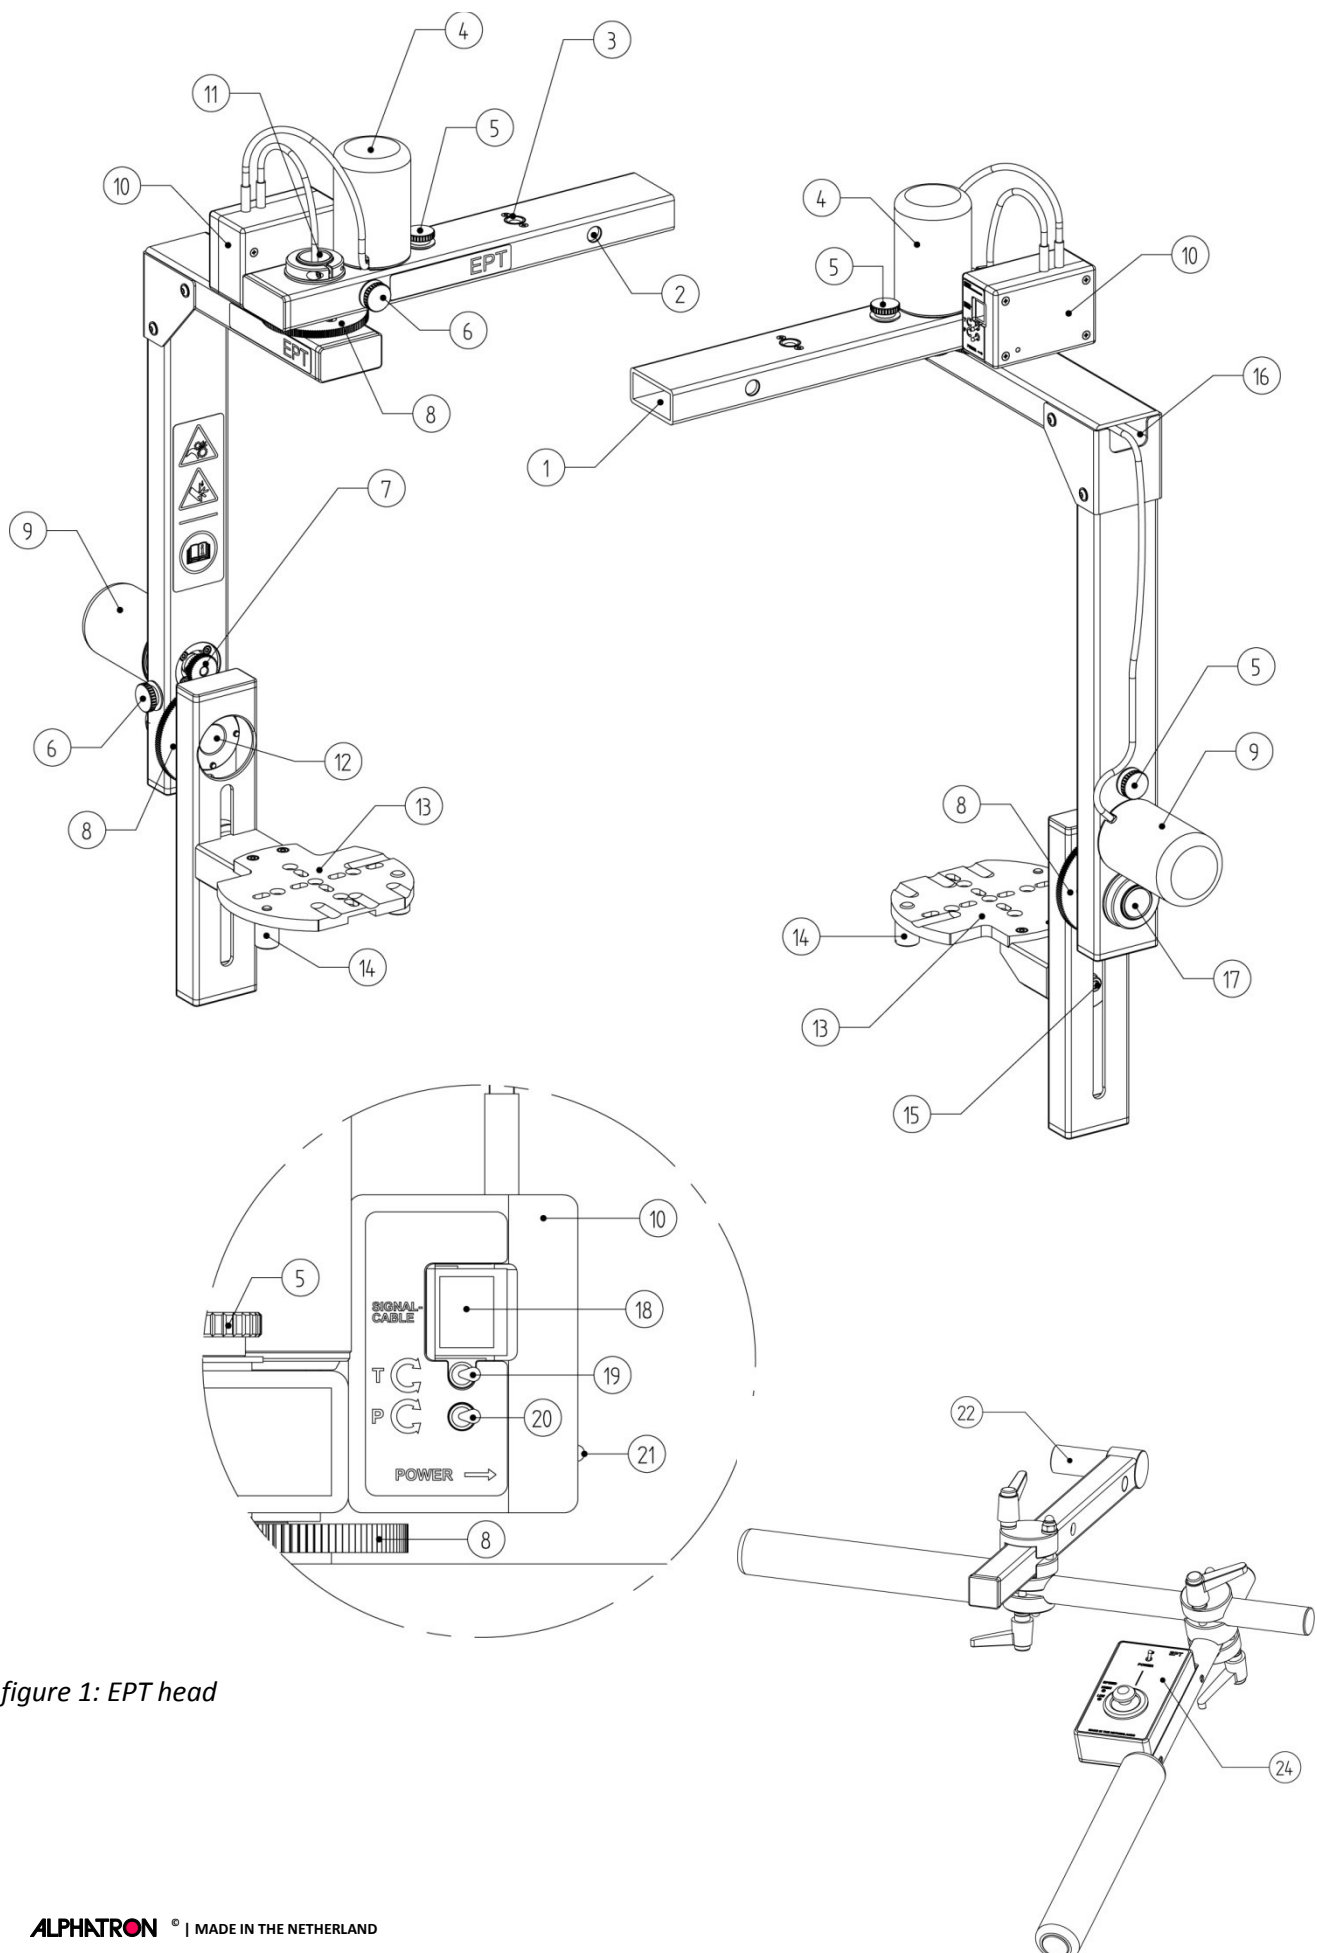

figure 1: EPT head
**CAUTION:** do not over-tighten knobs (5) and (6) shown in figure 1
The camera is balanced correctly when the **centre of mass** of the camera, lens, adapter plate and camera plate (13 fig.1) is in the axis of the tilt movement.
1. decouple the gears by loosening the two knobs (5) and (6)
2. slide the motor unit (9) upwards
3. when the gears are decoupled please lock either knob (5) or (6)
5. to align the centre of mass in the vertical direction please unlock hex bolt (15 fig.1), using a metric hex key 5mm
6. when the camera is balanced correctly please slide back the motor unit to couple the gears, **then slightly tighten knob (5) and (6)**
The remote control unit (24) is connected to the EPT head using a standard UPT cable (up to 10m). The cable is attached to the remote unit at connector (30 - fig2.) and at the motor control box at connector (18 - fig1.).